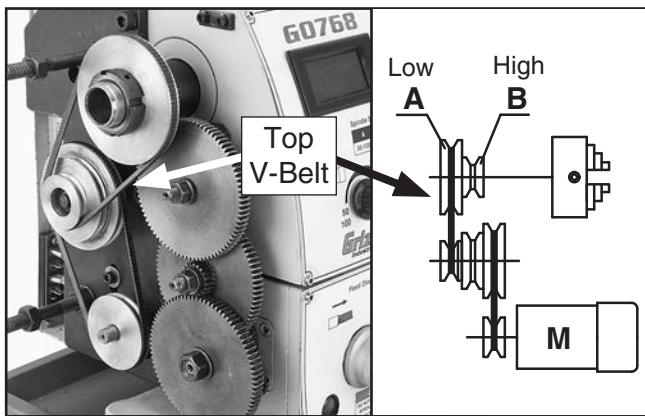

Figure 58. V-belt positioned in low speed range.
- Move top V-belt to **A** position (see **Figure 58** to select low speed range (50–1000 RPM).